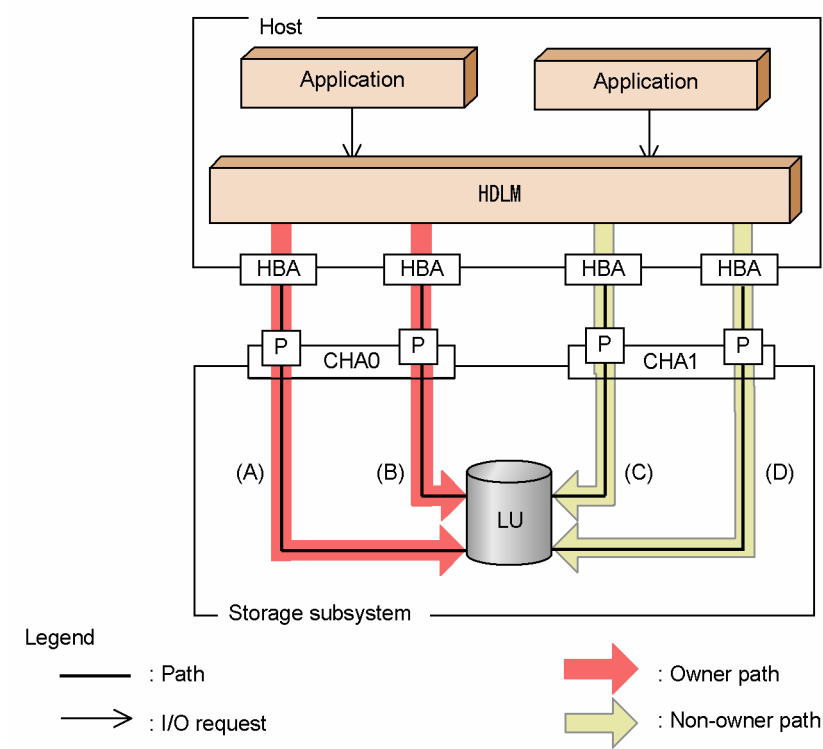

Figure 2.9 Overview of Load Balancing
This section explains the mechanism of load balancing. The explanation uses the example shown in Figure 2.9.
For the example in Figure 2.9, suppose that the owner controller of LU0 is CHA0. When the LU is accessed, the load is balanced between the paths (A) and (B) (that is, between owner paths). When the path (A) cannot be used due to a problem such as a failure, the LU can only be accessed via the path (B). When the paths (A) and (B) cannot be used, the load is balanced between the paths (C) and (D) (that is, between non-owner paths).